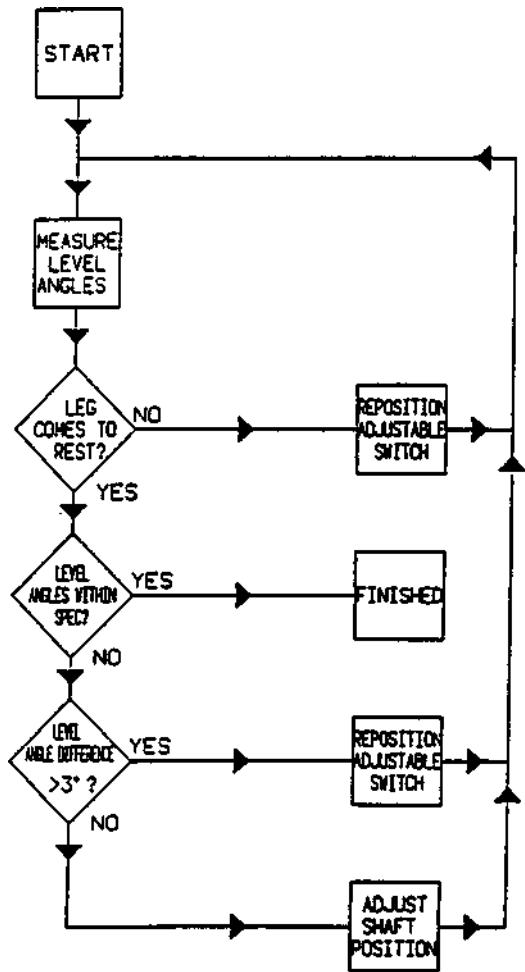

Figure 8-4. Leg Level Position Adjustment Procedure for Return to Level
- See Figure 8-4 & 8-5 for information and a picture of the environment and hardware dealt with in this procedure.
- 2. Leg Level Position Adjustment – Refer to Figure 8-4 for a flow chart of the adjustment procedure of paragraph 2.